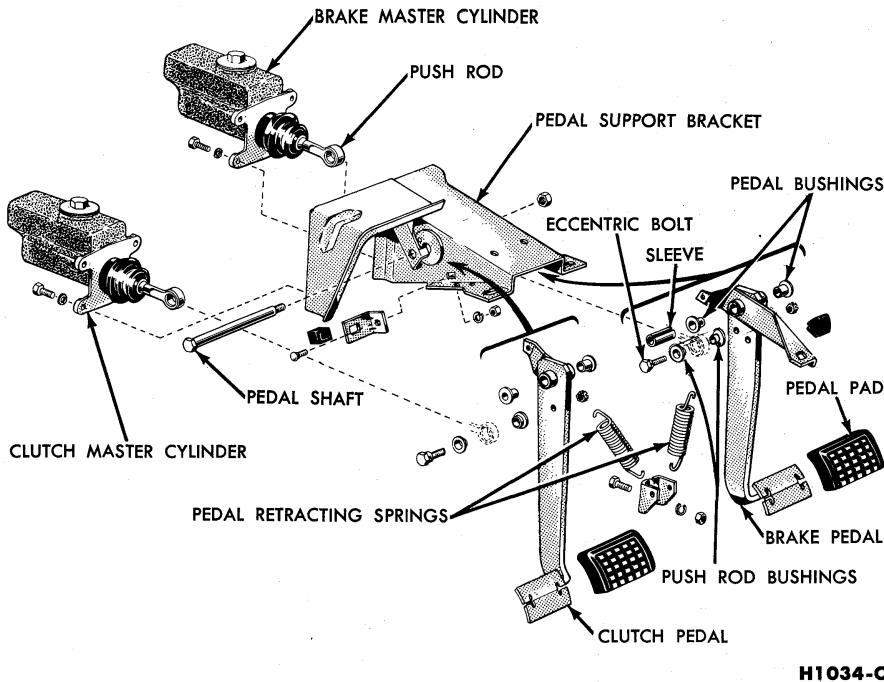

FIG. 19—B-, F-, N-, or T-Series and P-100 Brake Pedal and Related Parts
1. Remove the brake pedal retracting spring (Fig. 19).